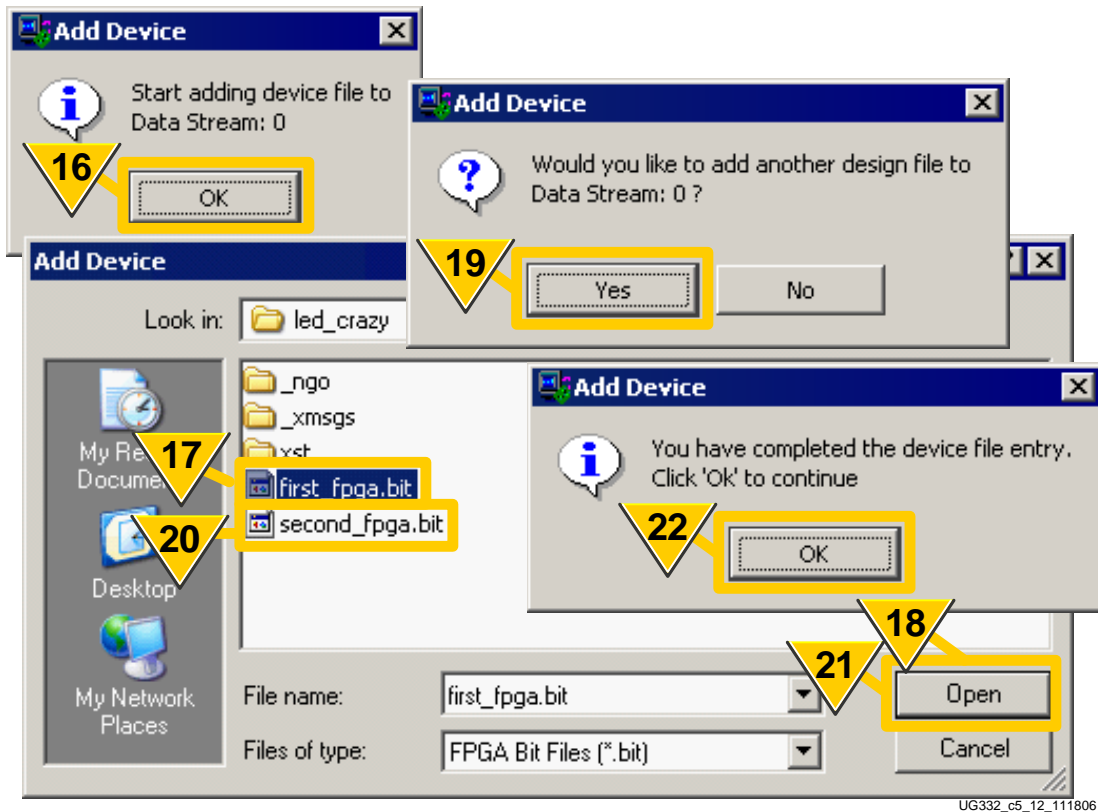

Figure 5-11: Select FPGA Bitstream Files
16. As shown in Figure 5-11, start selecting the FPGA bitstreams to store in the PROM.